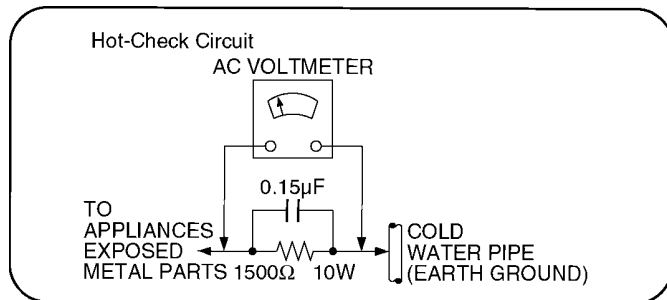

Figure 1
2.1.2. LEAKAGE CURRENT HOT CHECK (See Figure 1 .)
2. Connect a $1.5\text{k}\Omega$, 10 watts resistor, in parallel with a $0.15\mu\text{F}$ capacitors, between each exposed metallic part on the set and a good earth ground such as a water pipe, as shown in Figure 1.